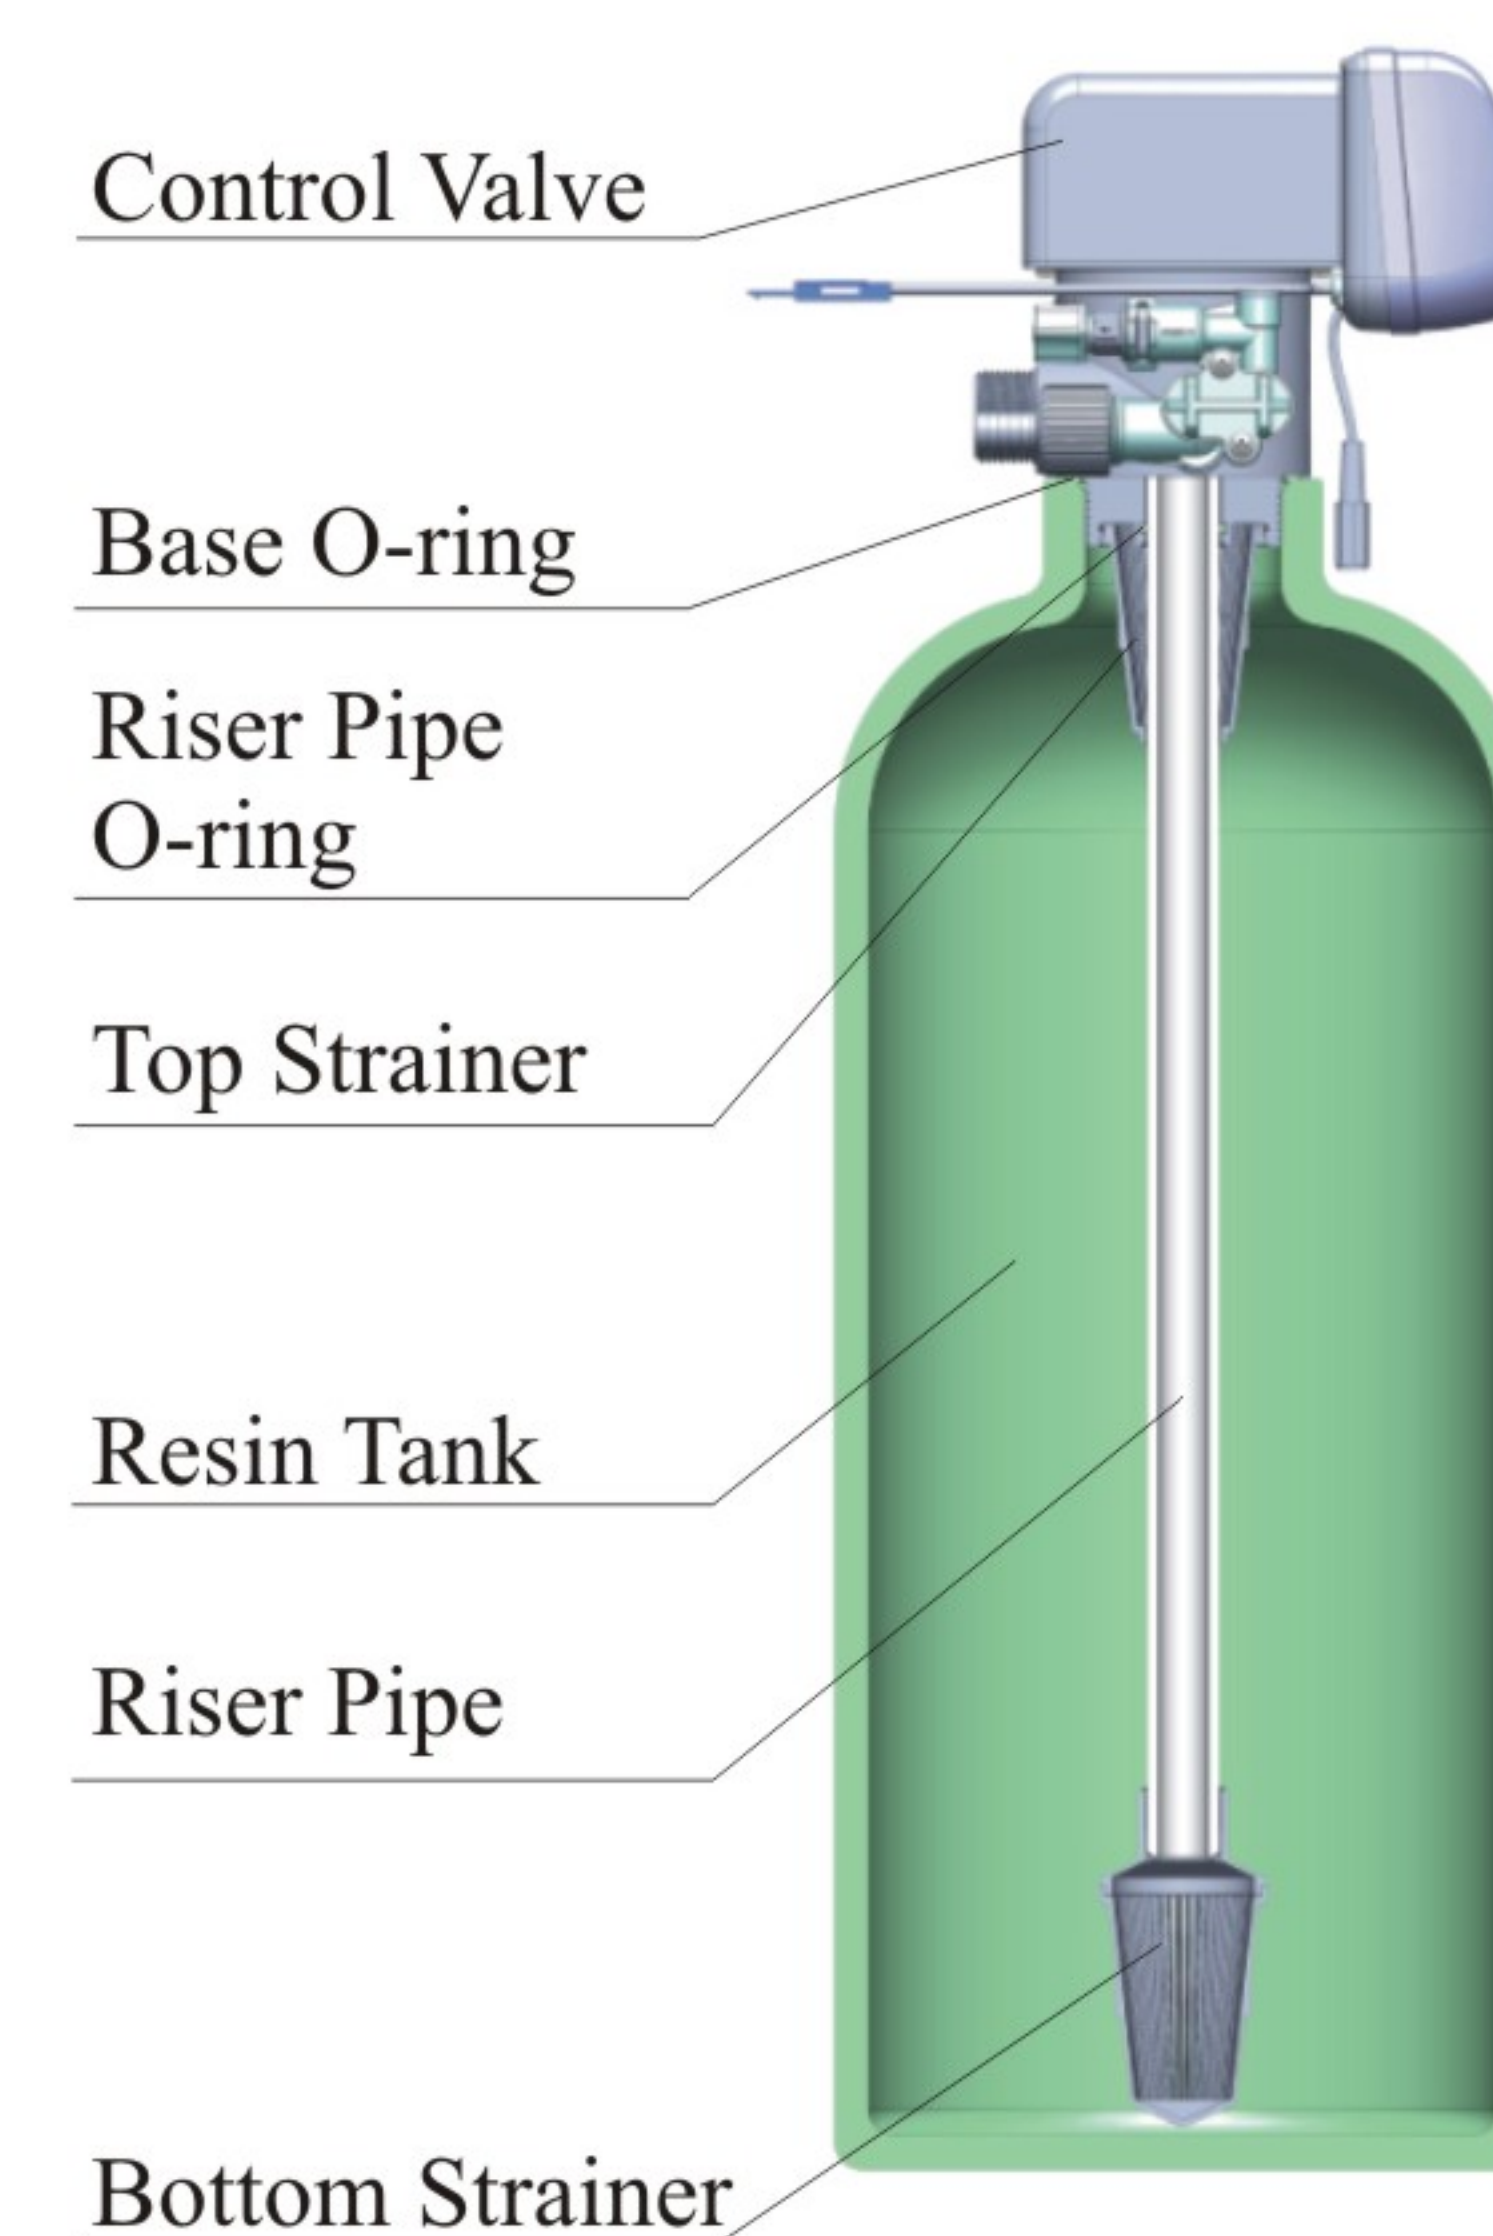

Figure1-1
- ①The filter or softener should be located close to the drain.
- ②Ensure the unit is installed in enough space for operating and maintenance.
- ③Brine tank needs to be close to softener.
- ④The unit should be kept away from the heater, and not be exposed outdoor. Sunshine or rain will cause the system damage.
- ⑤Please avoid to install the system in one acid/alkaline, Magnetic or strong vibration circumstance, because above factors will cause the system disorder.
⑥Do not install the filter or softener, drain pipeline in circumstance which temperature may drop below 5 °C, or above 50 °C.
⑦The system should be installed in a place where there will be the minimum loss in case of water leakage.
①Install control valve
a.As the Figure 1-1 shows, select the riser pipe with 26.7mm OD, glue the riser pipe to the bottom strainer and put it into the mineral tank, cut off the exceeding tube out of tank top opening. Plug the riser tube in case of mineral entering.
②Install animated connector